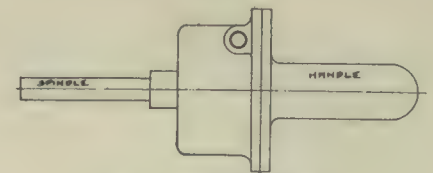
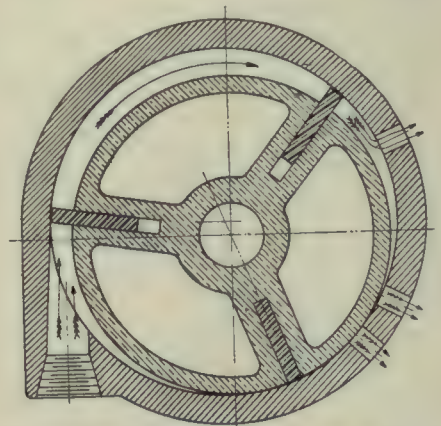

Fig. 3.—Small Air Drill.
Fig. 4.—Cross Sectional View of Small Air Drill.
C. Trumper, the toolmaker, has made a very neat little air drill which has been found very useful for drilling small holes. This is shown in Fig. 3, and the construction clearly shown in the cross-sectional view, Fig. 4. It operates on the same principle as that used in several recent attempts at producing a high speed rotary steam engine. The shaft is placed excentrically leaving a space on one side. Air impinges against protruding steel blades in the brass rotor, causing it to revolve at an extremely high